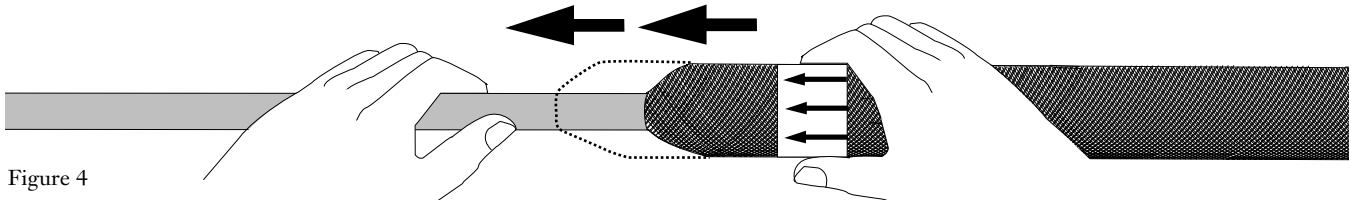

Figure 4
- c) Hold the cable with one hand and place your other hand over the arrow direction label. Slide the pulling sleeve as a unit down the cable per the arrows' direction (Figure 4). Continue sliding the sleeve down the cable until the sleeve's open end is beyond the epoxy plug at the end of the connector legs.